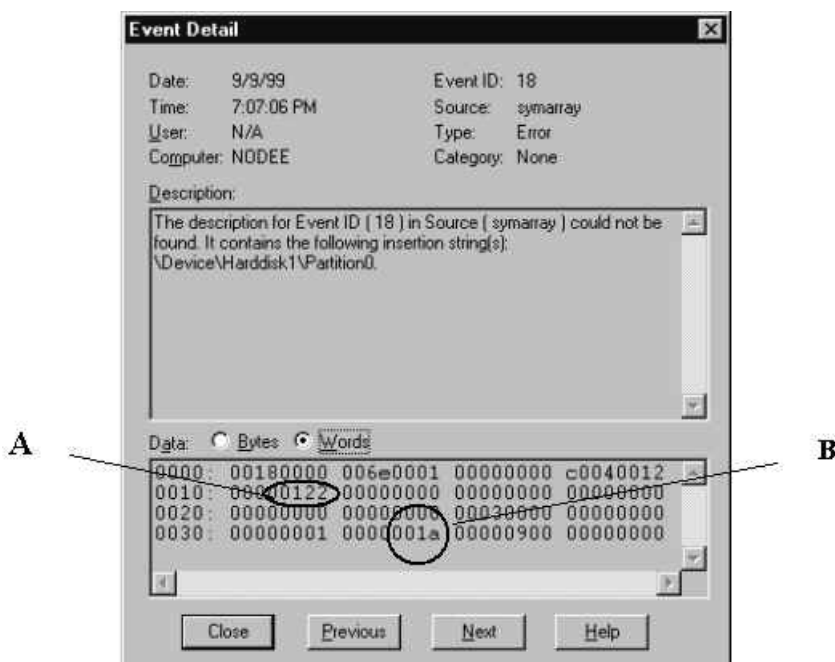

Figure 118. Event detail
2. Select the **Words** radio button to convert the bottom text from bytes to words. See Figure 118.